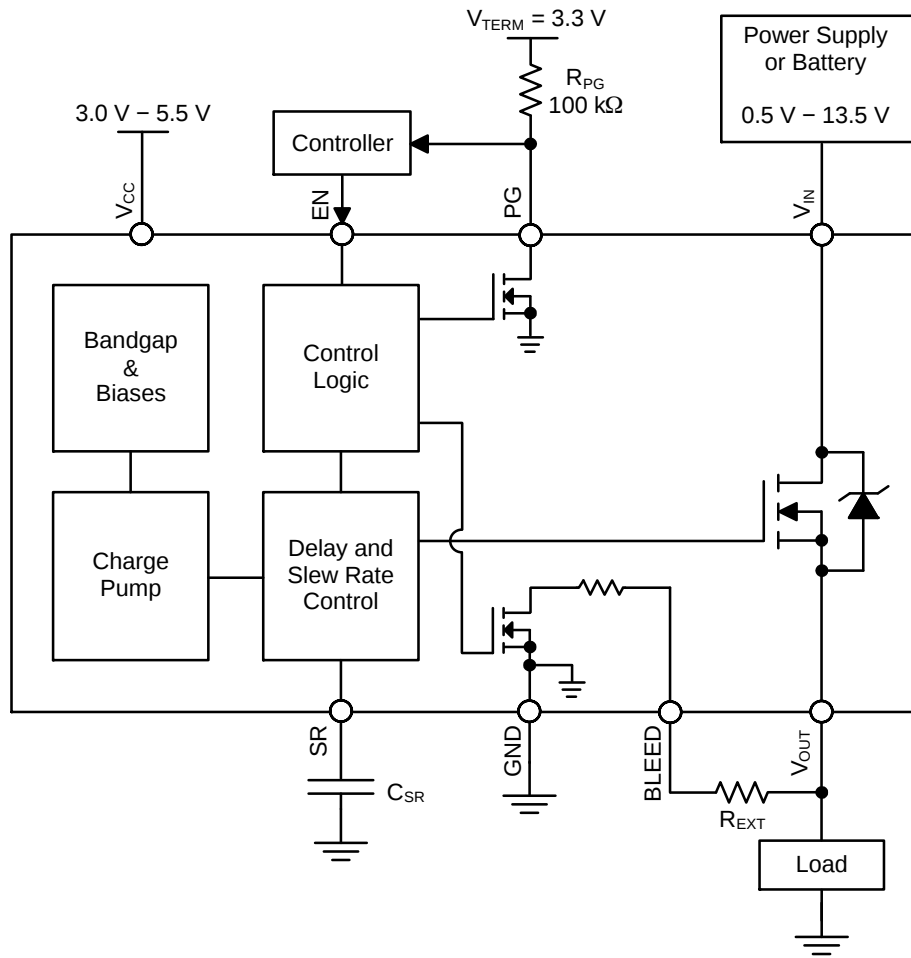

Figure 27. Typical Application Diagram – Load Switch
It is required that the BLEED pin be connected to V_{OUT} either directly (as shown in Figure 28) or through an external resistor, R_{EXT} (as shown in Figure 27). R_{EXT} should not exceed 100 M Ω and can be used to increase the total bleed resistance and decrease the load bleed rate.
The NCP45541 devices have a power good output (PG) that can be used to indicate when the gate of the MOSFET is fully charged. The PG pin is an active-high, open-drain output that requires an external pull up resistor, R_{PG} , greater than or equal to 1 k Ω to an external voltage source, V_{TERM} , compatible with input levels of other devices connected to this pin (as shown in Figures 27 and 28).
The slew rate can be decreased with an external capacitor added between the SR pin and ground (as shown in Figures 27 and 28). With an external capacitor present, the slew rate can be determined by the following equation: